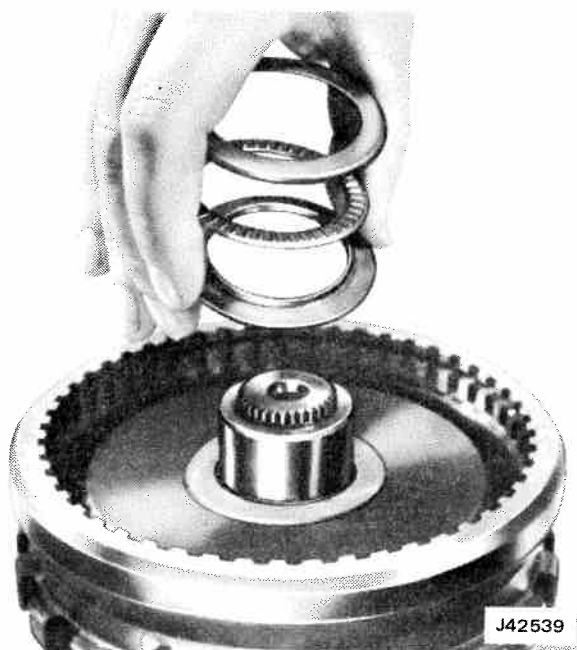

Fig. 7-109 Rear Internal Races and Thrust Bearing
(3) Install output carrier over main shaft so that pinions of carrier mesh with rear internal gear.
(4) Reposition components thus far assembled so that main shaft extends downward through hole in bench and back face of rear internal gear is upward.
(5) Install rear internal gear-to-output shaft races and thrust bearing and retain with petroleum jelly as shown in fig. 7-109.
(6) Place small race against internal gear with center flange facing upward.
(7) Install thrust bearing in race, and place large race over small race, with outer flange cupped over bearing.